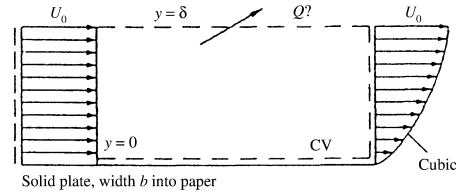

Fig. P3.16
3.16 An incompressible fluid flows past an impermeable flat plate, as in Fig. P3.16, with a uniform inlet profile $u = U_o$ and a cubic polynomial exit profile